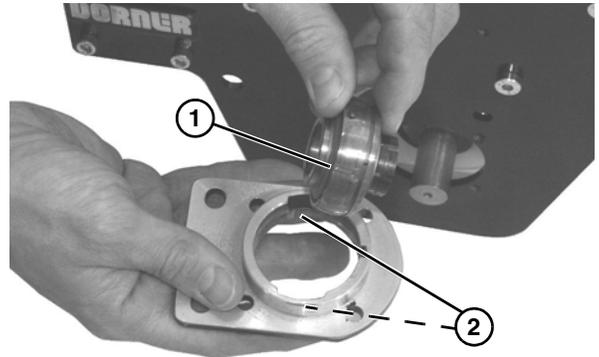

Figure 56
1. Turn bearing (**Figure 56, item 1**) to align with slots (**Figure 56, item 2**) in bearing housing. Then remove bearing.